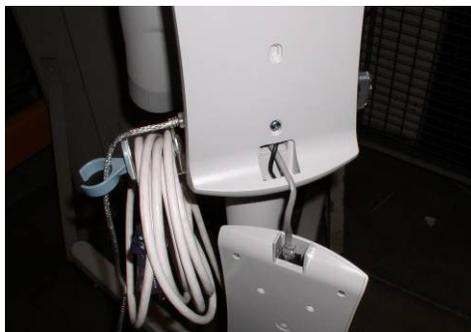

Figure 49
13. Attach the CAT5 cable to the control panel as shown on Figure 49, page 27.